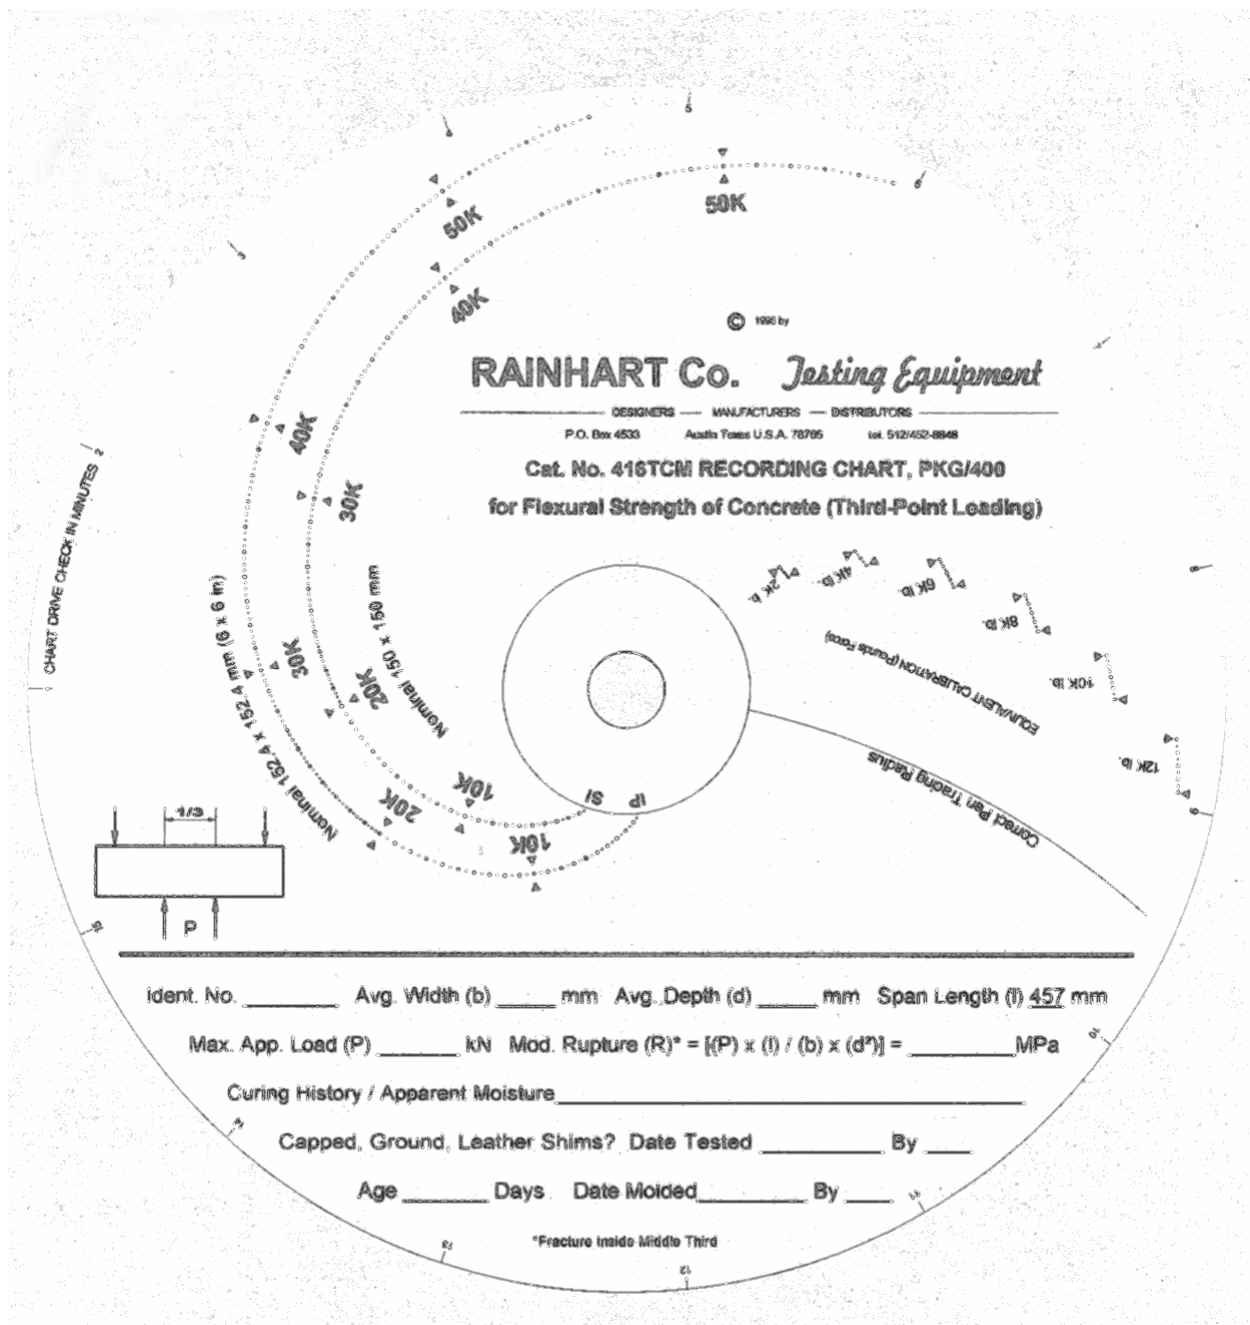

Figure 1
e.3.a. Chart No. 416TCM (see figure 1) is the correct chart to use on the Rainhart Beam Breaker. This chart loads at a rate of 1016 kPa/min (1764 lbf/min).